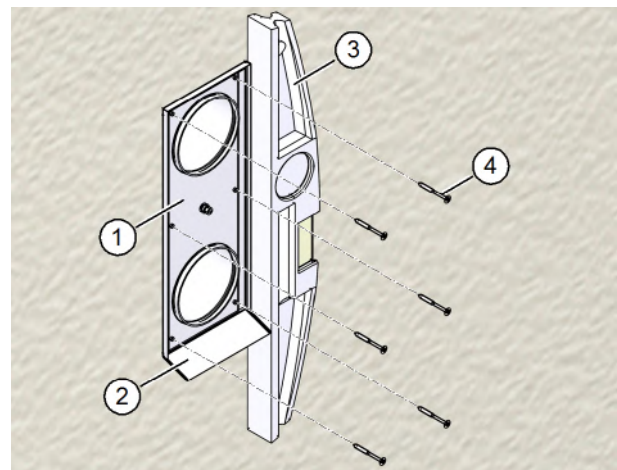

Fig. 19: Fixing the base plate
- ▶ Carefully position the base plate (item 1 in Fig. 19) correctly on the ventilation pipes. Be careful not to damage the seals.
Make sure that the drip edge (item 2 in Fig. 19) is pointing downwards.
- ▶ Use a spirit level to align the base plate vertically (item 3 in Fig. 19).
- ▶ Use the six screws provided to fix the base plate (item 4 in Fig. 19).